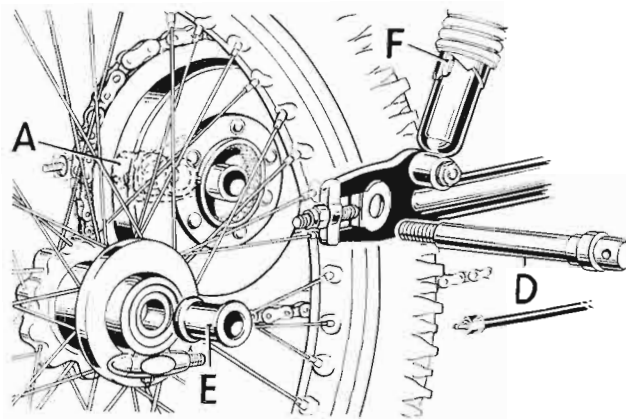

FIG. F.6. Removal of rear wheel.
Detach the speedometer drive cable then unscrew and withdraw the wheel spindle (D) Fig. F.6, using a suitable steel bar through the head. It has a normal right-hand thread and is therefore unscrewed in an anti-clockwise direction.